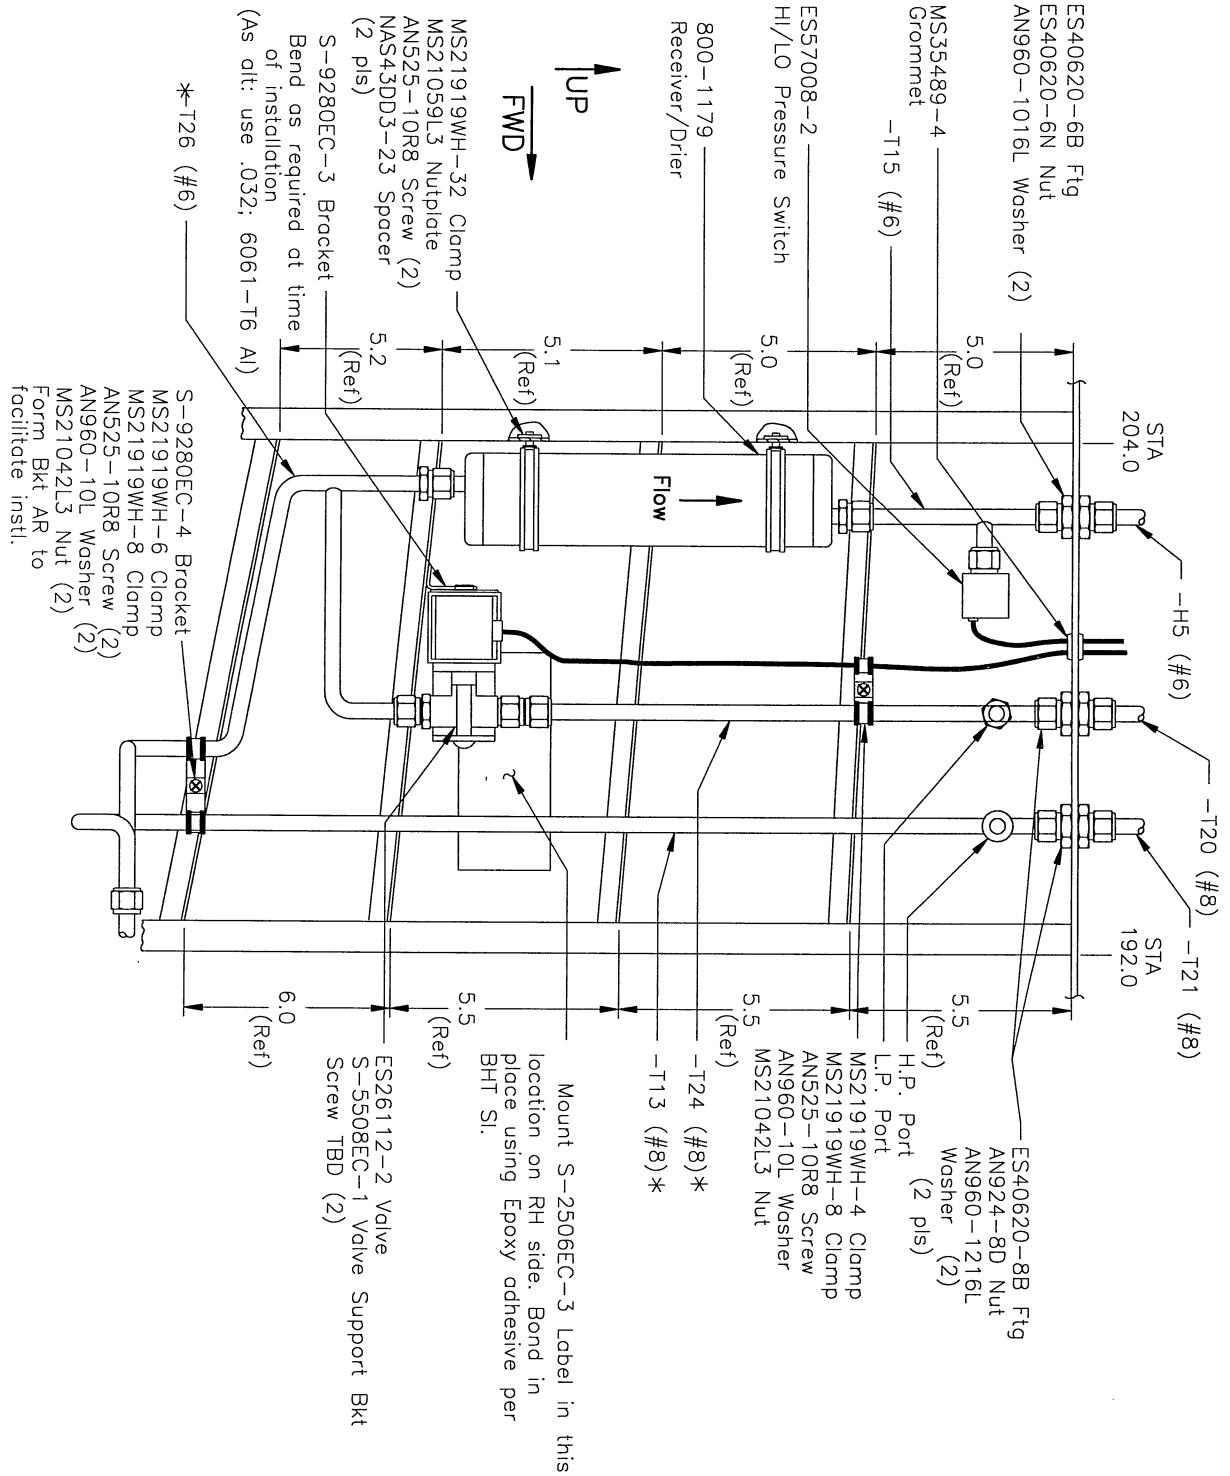

Figure 5
13. Remove and discard S-5008EC-T14, S-5008EC-T19 Tube Assys and ES-26101-5 Valve and replace with S-5012EC-3, S-5012EC-10 Tube Assys and ES26112-2 Valve and S-5508EC-1 Support Brkt. (fig.5). Use ICI Polyester oil to lubricate #6 & #8 o-ring prior to assembly.